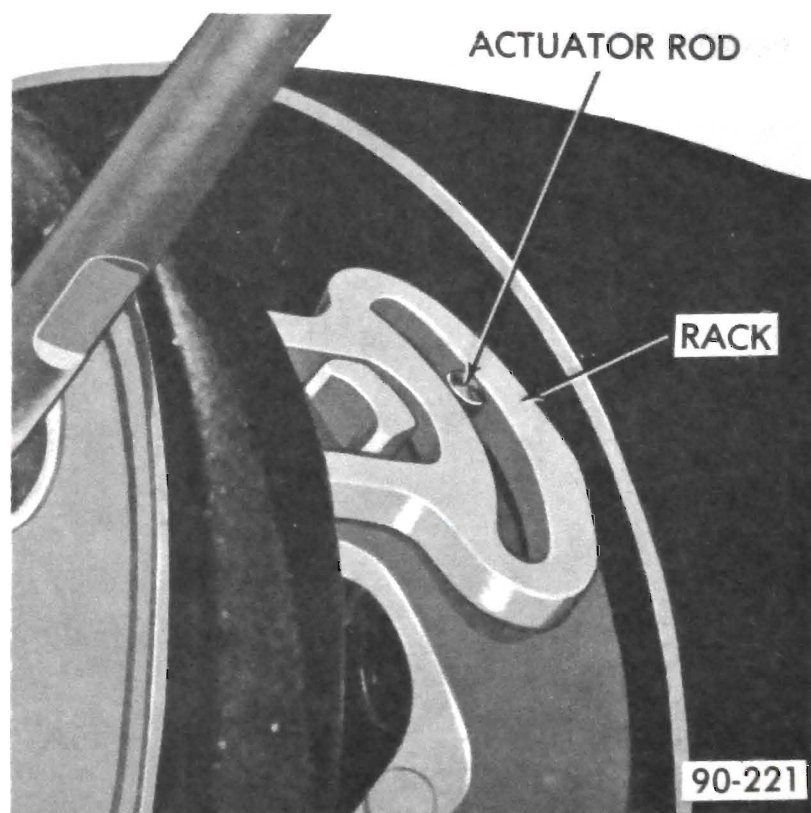

Figure 90-126 - Installing Bearing Housing
17. Assemble bearing housing over steering shaft and engage rack over end of actuator rod. See Figure 90-126.